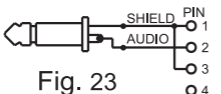

Fig. 23
5. Line-input (impedance 8K ATT 10dB), Fig. 23: